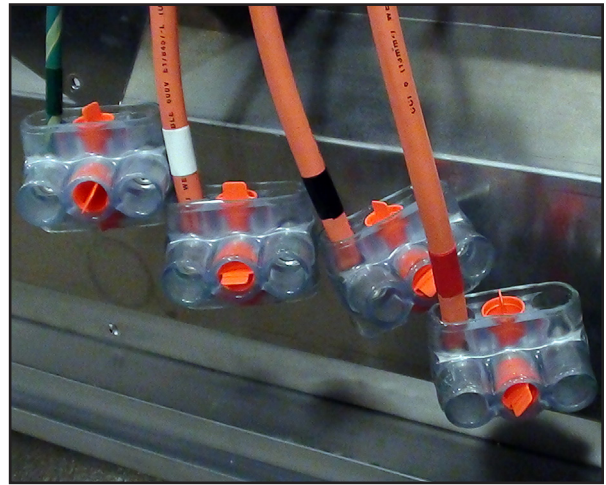

Figure 10: Power Entrance Box
6. Connect the power ground wire to the appropriate tap (green wire), as shown in **Figure 10**.